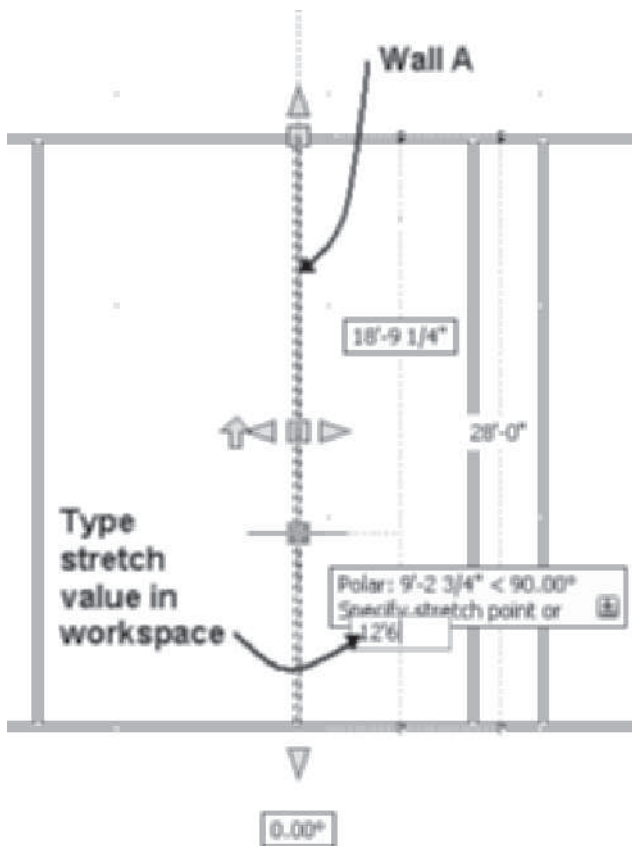

FIGURE 2.69 Wall selected for grip edit
12. Select **Zoom Extents** from the **Zoom** flyout of the Navigation bar. Select **Wall A** as shown in Figure 2.69.
13. To edit the length of the wall using grips, select the Start Grip (bottom square grip) of Wall A to make it hot, move the pointer up, and type **12'6 [3810]** ENTER, dynamically displayed in the tooltip, to stretch the wall up as shown in Figure 2.69.